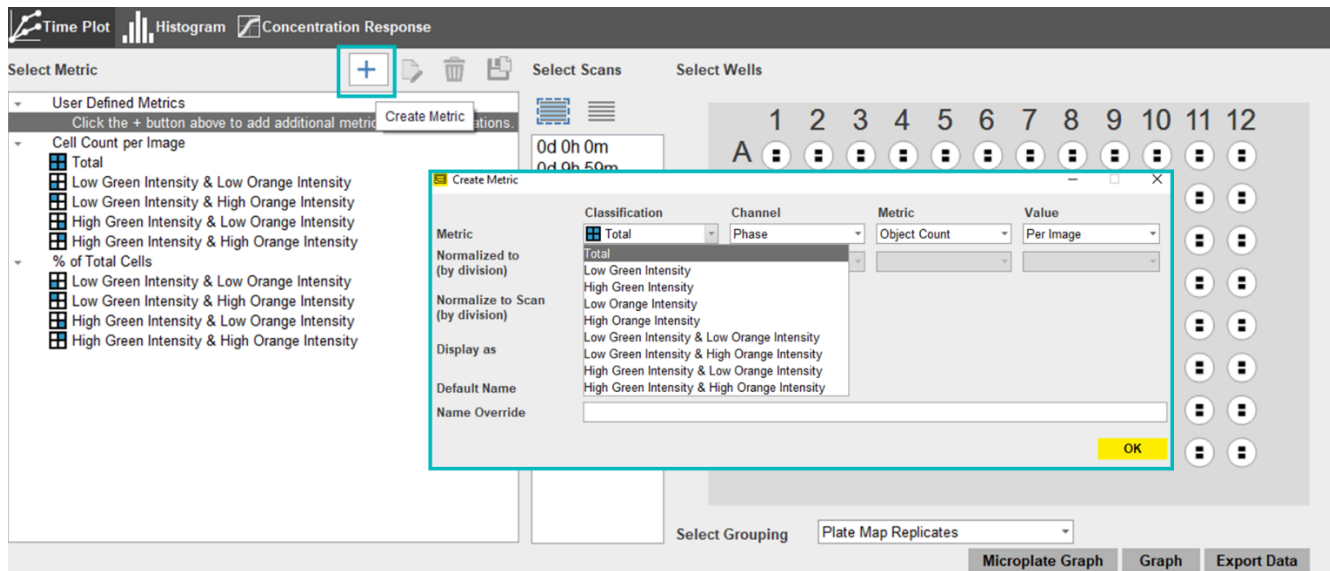

Figure 8. Creating metrics using the metric interface.
9. At this stage it is possible to create metrics using the metric interface. We can also now create metrics regarding the individual halves/quadrants of classified cells (Figure 8).